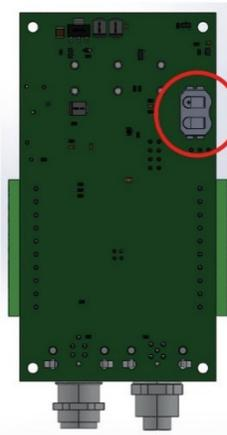

Figure 73. Coin cell location
- On the top left side of the PCB the old cell can be located and removed as shown in Figure 73.